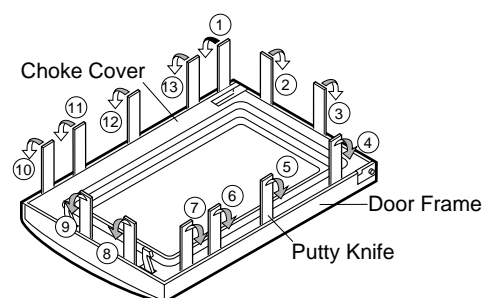

Figure C-5. Door Disassembly
3. Insert a putty knife (thickness of about 0.5mm) into the gap between the choke cover and door frame as shown in Figure C-5 to free engaging parts.
4. Pry the principles of the lever and lift up the choke cover by inserting a putty knife as shown Figure C-5.
7. Release two (2) pins of door panel from two (2) holes of upper and lower oven hinges by lifting up.